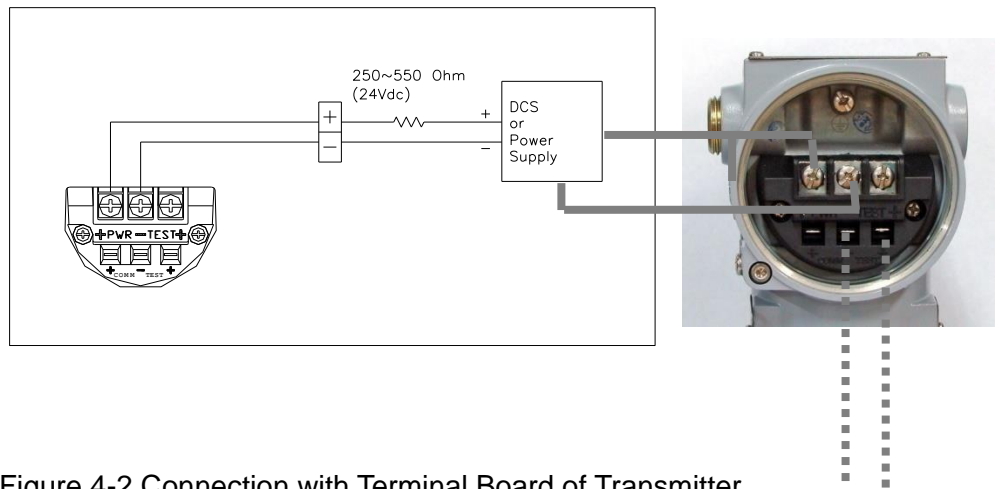

Figure 4-2 Connection with Terminal Board of Transmitter
- Follow Figure 4-2 below for wiring instructions.